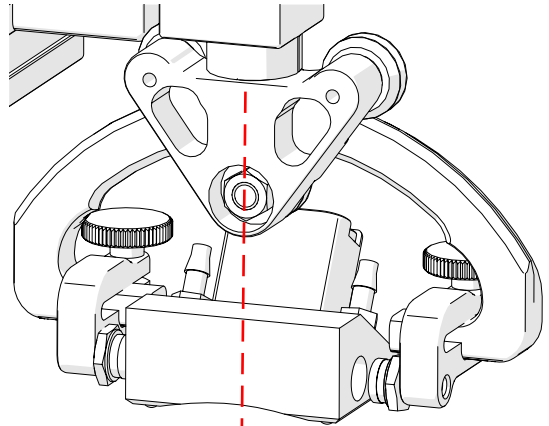

Fig. 51 - Align probe
5. Align the probe with the centre of the yoke pivot (Fig. 51).